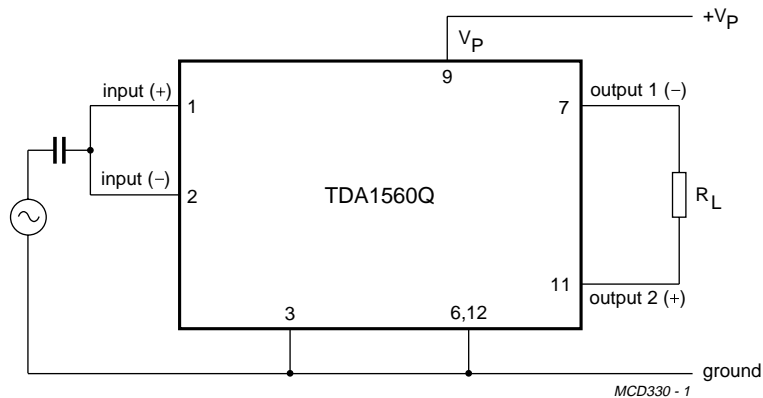

Fig.5 Common mode rejection ratio measurements.
5. The common mode rejection ratio is measured at the output, across R_L , with a voltage source (500 mV RMS) between both short-circuited inputs and signal ground (see Fig.5). Frequencies are between 100 Hz and 10 kHz.